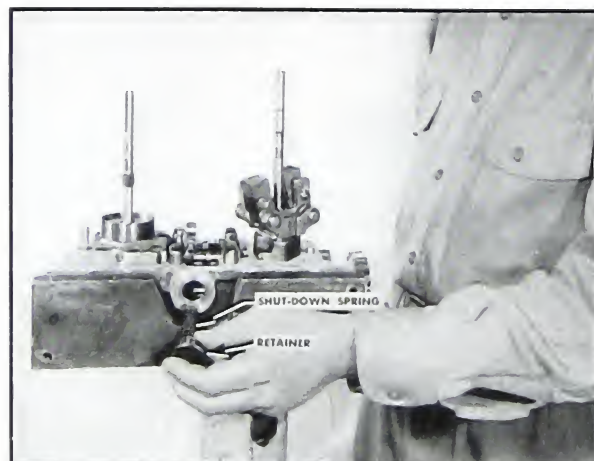

Fig. 5-332. Insert shut-down spring and retainer
4. Use a new gasket and assemble the shut-down spring retainer, spring and cap to the lower housing. Fig. 5-332.